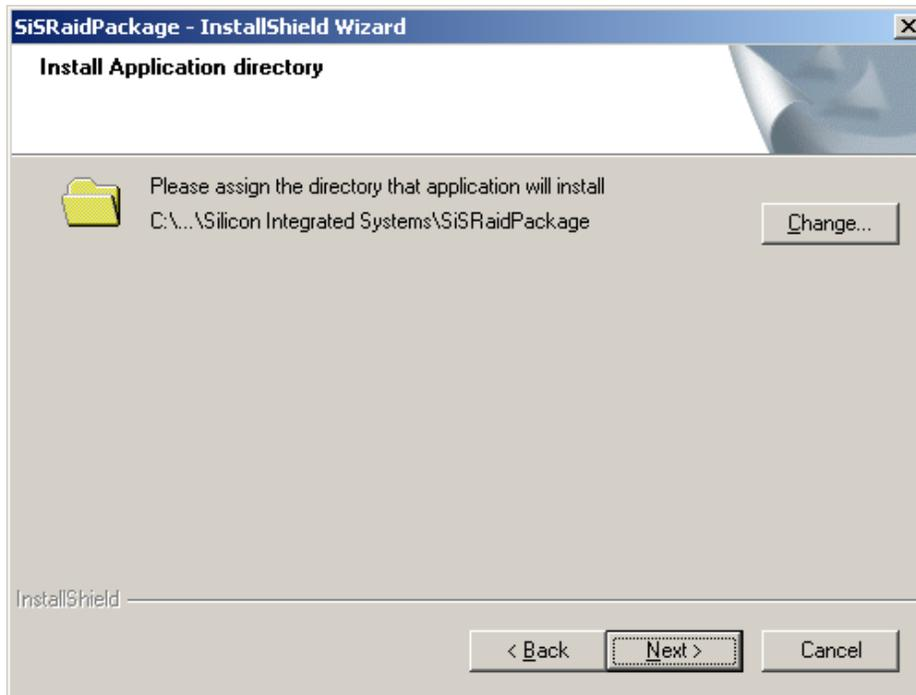

Figure 6-32: Install Application Directory
Step 9: The **Install Application Directory** window appears (**Figure 6-32**). Click **CHANGE** to manually select a destination folder for the program, or click **NEXT** to accept the default directory and continue the installation.